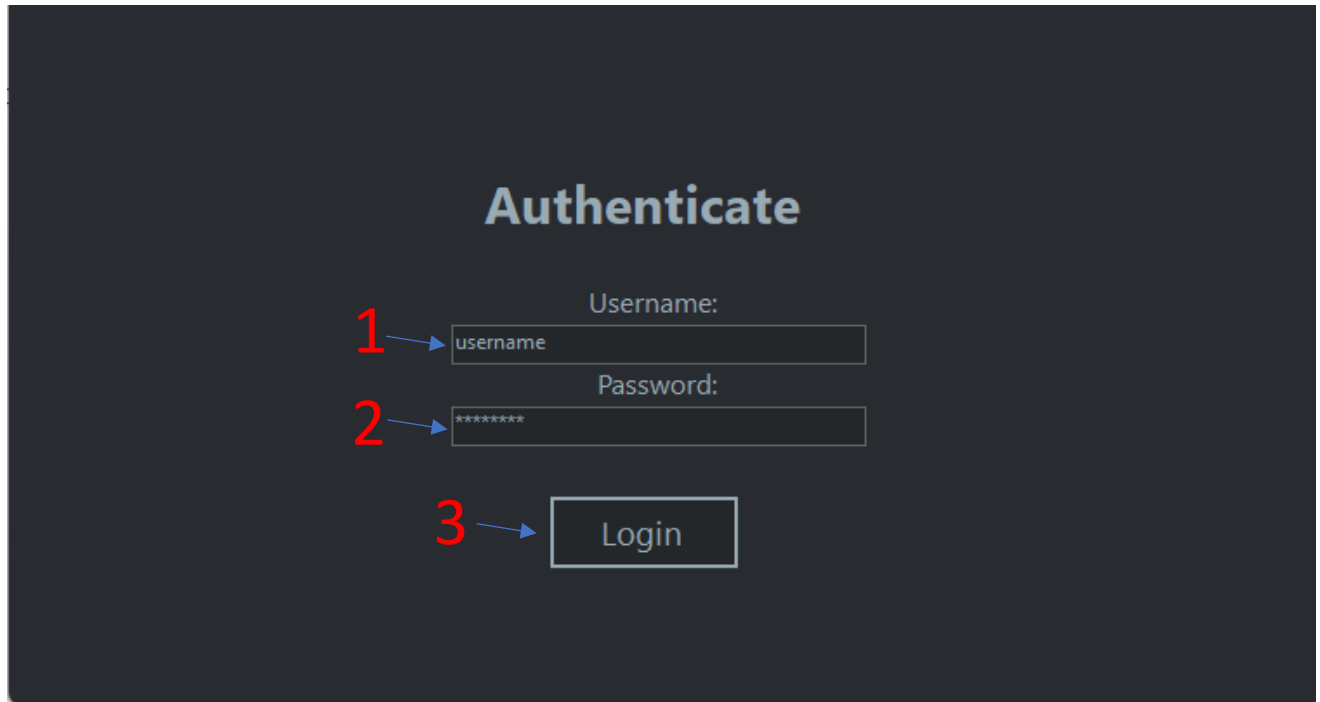

Fig 1.1 Log in tutorial
Firstly, you must type in your username into the first (1) textbox and the password into the second (2) textbox. After you have typed them, you press the Login (3) button -> Fig 1.1